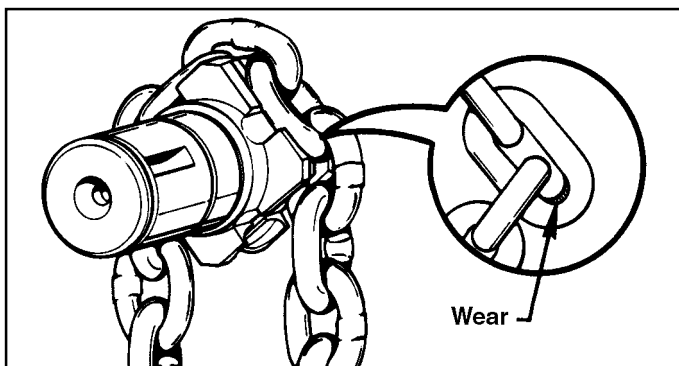

Figure 5-1. Check Chain Wear at Bearing Surfaces Between Links
(2) **Coil Type Load Chain.** Clean chain for inspection. Examine visually for gouges, nicks, weld spatter, corrosion or distorted links. Slacken chain and check bearing surfaces between links for wear, fig. 5-1. Greatest wear will often occur at sprocket at high or low point of lift, particularly when hoist is subjected to repetitive lifting cycles. Case hardness of chain is